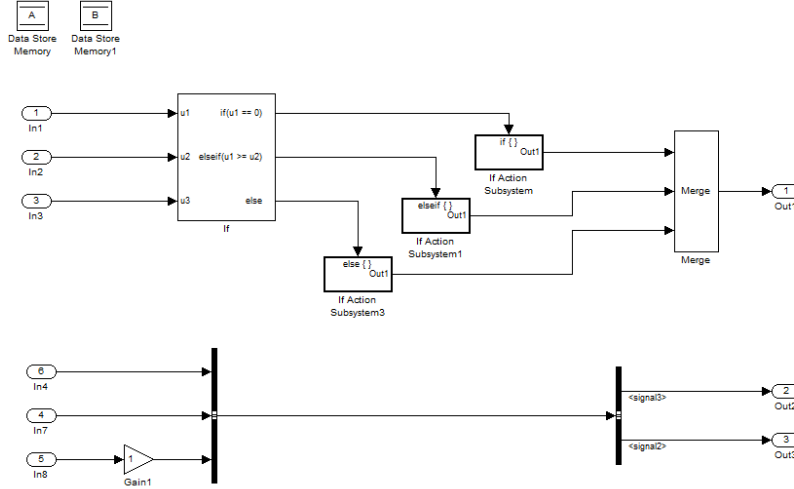

Figure 3: Reach/Coreach demo model.
Use the command `ReachCoreachDemo` in the Simulink command window to open the example model, shown in Figure 3. This example has control and data flow pass through **Data Stores**, **If** and **If Action** subsystems, as well as a
2. To clear the highlighting now present in the model due to the previous reach operation, right-click anywhere in the model and select the **Clear Highlighting** option. This will revert the model's appearance to that of Figure 3.